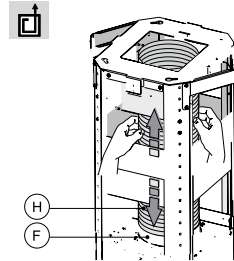
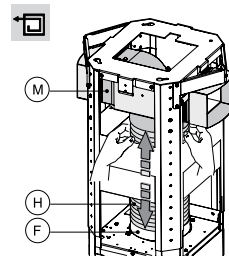

Fig. 12
Fig. 13
- Assemble the ventilation duct(H), as shown in the diagrams below dependant on whether you are extracting air to the outside (Fig 12) or re-circulating (Fig 13), in which case you will need to purchase an optional accessory T-piece(M) from CDA. Ensure that the duct adapter (F) is securely connected to the duct pipe or T-piece in order to minimise noise.
- Separate the two decorative sections and mount the upper section(Y) into position, then fix it to the frame with the 2 supplied screws(X).